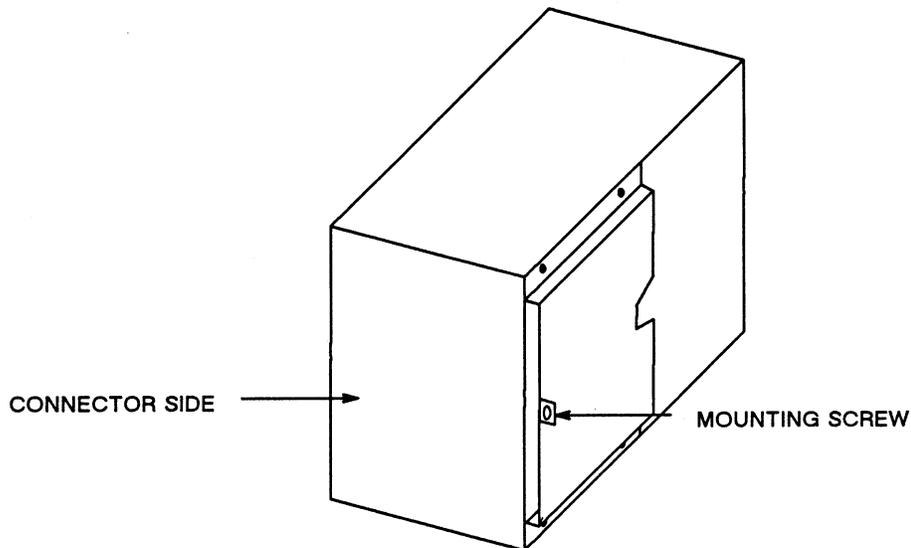

Figure 7-5. Mounting an 85MB Disk Drive
4. Positioning the disk drive so that the mounting plate is on the right-hand side, insert the disk drive into its proper slot. Be sure to insert the protruding steel lip on the bottom of the disk drive mounting plate into the slide rail on the deskside module mounting bracket. Push the disk drive into the bracket. See Figure 7-5.
Figure 7-5 shows the proper orientation of the 85MB disk drive for mounting to the deskside module bracket.